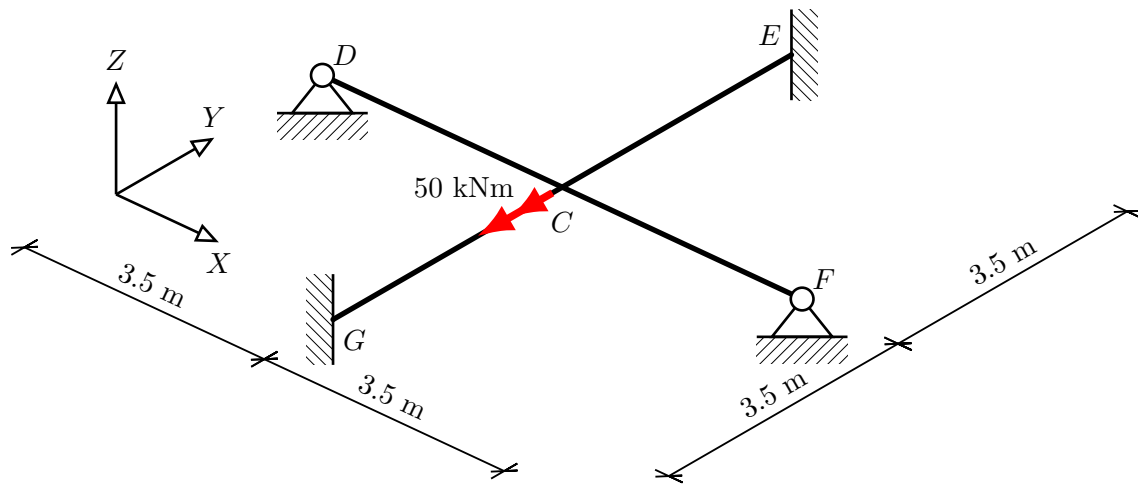

Figure 1: Grid Problem.
The symmetric grillage shown in Figure 1 has fixed ends at E and G and pinned ends at D and F . Material and geometric properties are the same for all members:
Draw the resulting bending and torsion moment diagrams for the applied load shown in Figure 1.
Step 1: Define coordinate system. This is already provided in Figure 1.